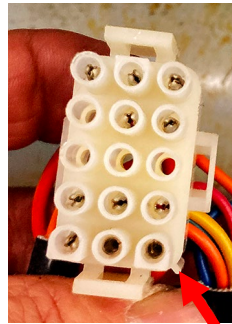

Figure 56
59. Reattach the black main 15-pin harness to the top plug on the rear of the component box. Pin 1 (denoted by the tab) is in the lower right corner (see Figures 56 & 58).